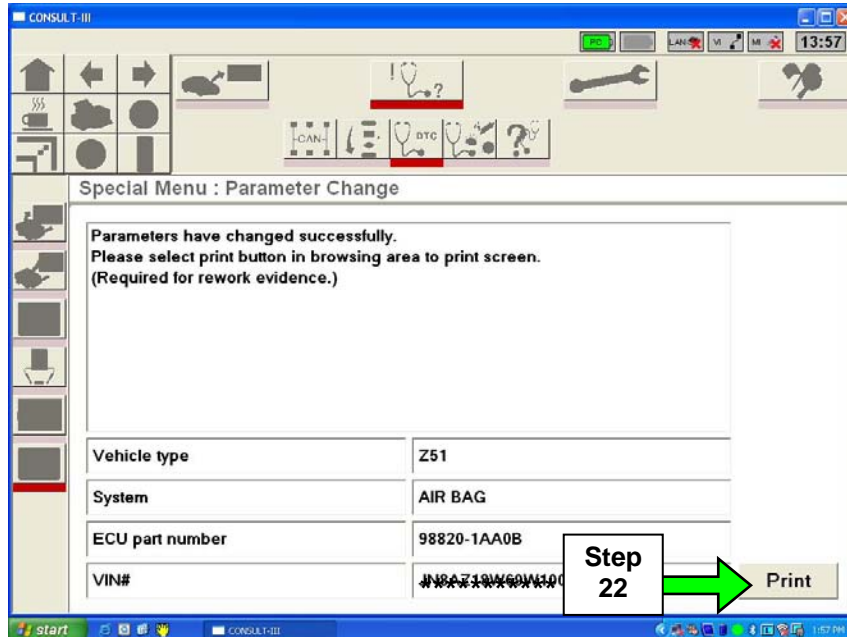

Figure 10
- When the screen in Figure 10 appears, the Parameter Change (reprogram) has successfully completed.
NOTE: If you saved a copy of the screen in Figure 10 and need to print it at a later date, you can find it in the following file location: